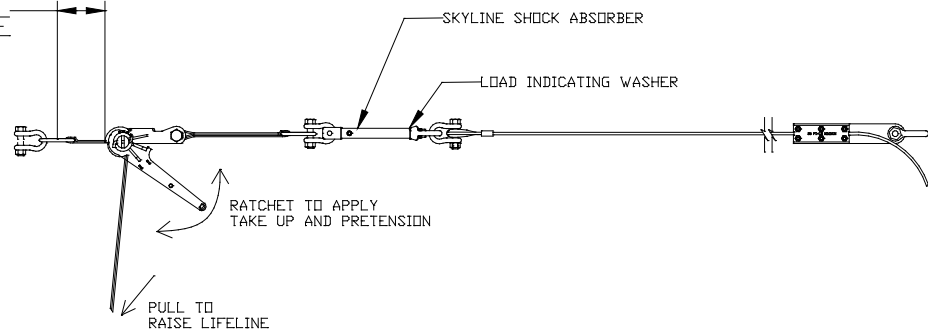

Fig. 10 Shock Absorber Load Indicating Washer
29. Tighten the ratchet load binder until the line tension just releases the load-indicating washer of the Shock Absorber to spin free. This washer is located just under the eye of the Shock Absorber (see Figure 10). A freely spinning washer indicates that the cable has been pre-tensioned to 1000 lbf.